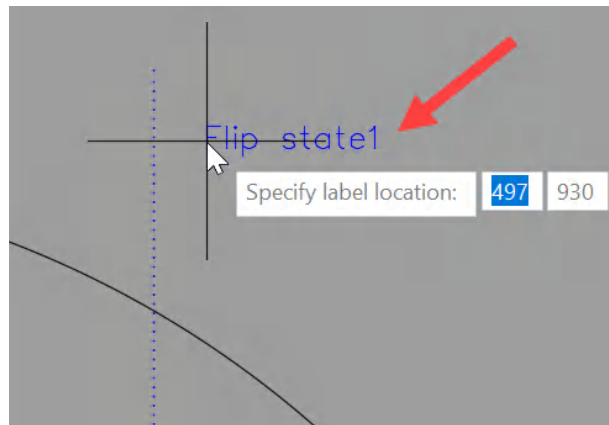

Figure 11.15: Positioning the vertical reflection line label
8. Click to position the vertical reflection line. You will be prompted to specify the parameter label location, as shown in *Figure 11.15*. Click to position the label near the reflection line.